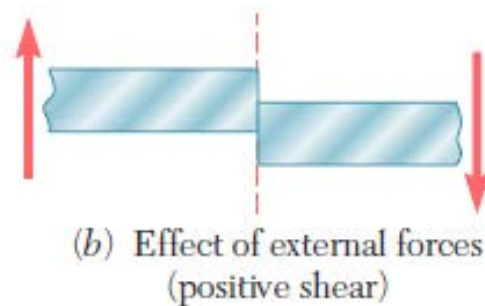

Figure 2.6
- ▶ The shear at any given point of a beam is positive when the external forces (loads and reactions) acting on the beam tend to shear off the beam at that point as indicated in Figure 2.6.